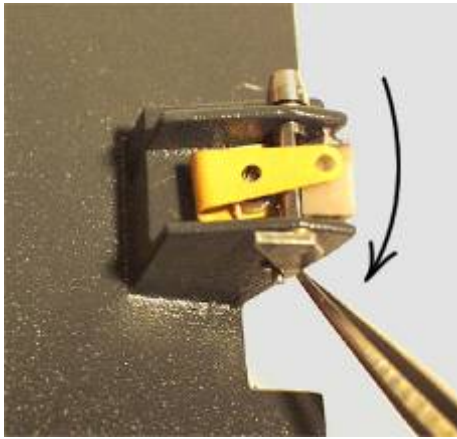

Fig. 2-27
1. Release the probe clip spring. To do this, turn downward the trapeziform lever, located on the outer side of the holder body, with sharp forceps (Fig. 2-27);